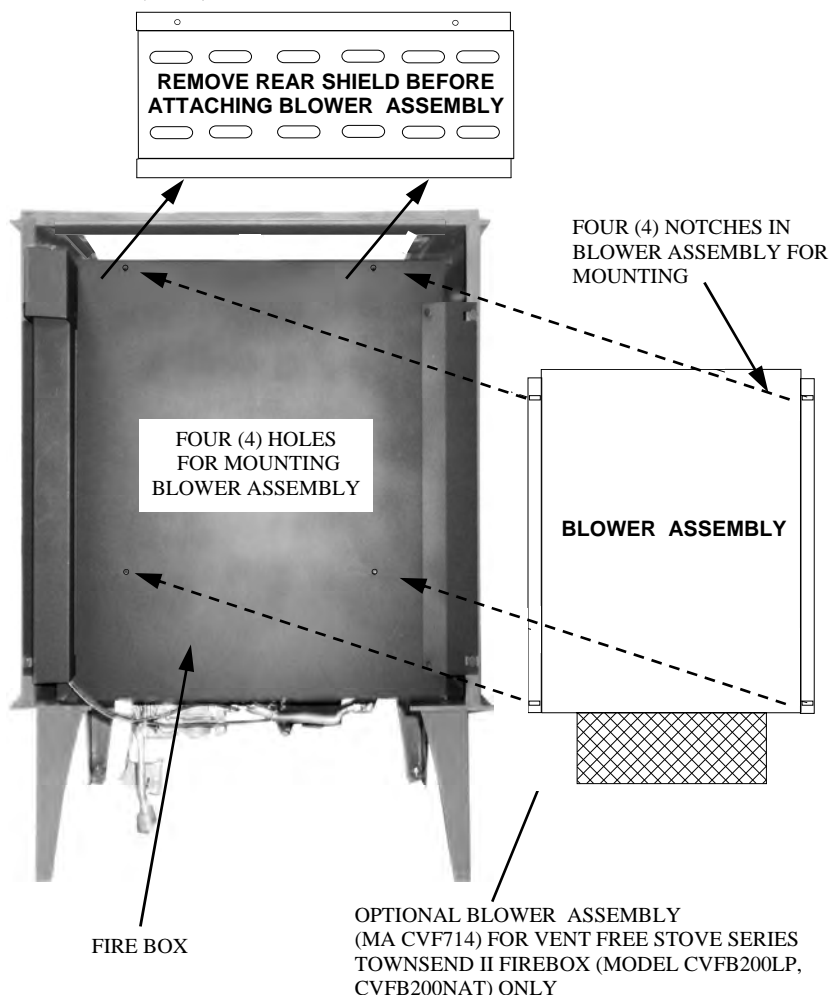

FIGURE 5 - LOCATION OF OPTIONAL BLOWER ASSEMBLY
4. From the rear of the Fire Box, align four (4) notches in Blower Assembly with (4) holes in rear of Fire Box. This will ensure centering of Blower Assembly on the Fire Box. Attach Blower Assembly to Fire Box using four (4) #8 x 1/2" self-piercing mounting screws provided. (See Figure 5).